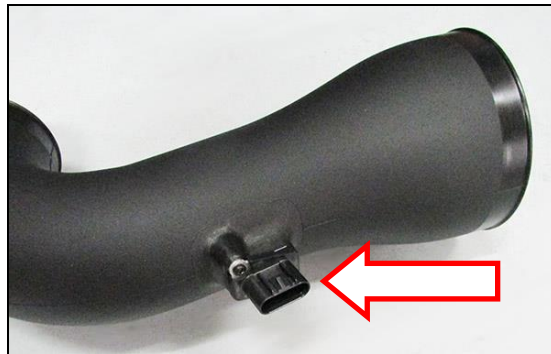

Figure 4
10. Remove the MAF sensor from the OE tube and using (x2) supplied M4 screws, secure the MAF sensor onto the iNTECH intake tube and tighten (**Figure 4**).